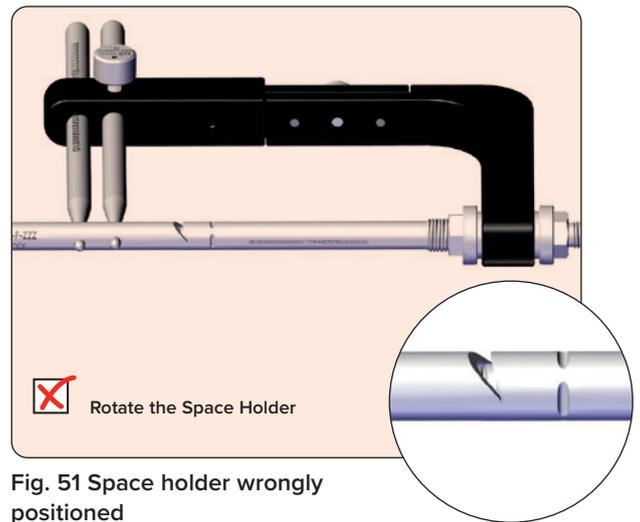

Fig. 51 Space holder wrongly positioned
1. The marking "THIS SIDE UP" on the Space Holder is not facing upwards and the connection between drill guide assembly and Fitbone is loose. **(Fig. 51)**